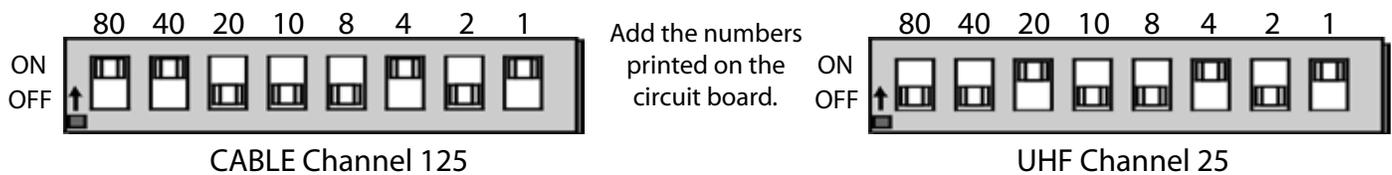

Figure 1 - Setting the modulated channel with the switches. Valid channels are UHF 14-69, CABLE 70-94, 100-125.
1. Set the channel with the switches as shown in Figure 1. Choose an unused channel that matches the tuning mode of the televisions. With antenna tuning, choose a UHF channel from 14-69. With cable tuning, choose a CABLE channel from 70-94 or 100-125. There must be at least one blank channel on either side of the modulated channel to separate it from any other broadcast, cable, or modulated source. When combining with cable service, be aware that digital data typically interferes with channels 80-117, even when not subscribed to digital services. Channels 120-125 often work without any filtering.